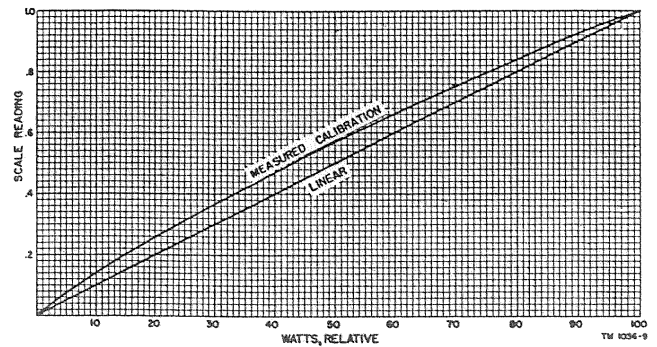

Figure 9. Scale Comparison - Thermocouple vs. Linear
e. The thermocouples generate a d-c millivoltage almost proportional to the r-f current squared and hence to r-f power. They do however depart somewhat from this function. In order to avoid the necessity of a correction for this error, the scale of the d-c millivoltmeter M201 has been drawn to correct this factor. Comparison of a linear millivolt scale and the actual scale used is illustrated in Fig. 9.
d. The d-c millivoltage thus generated by the thermocouple is almost directly proportional to the r-f current squared and hence to r-f power squared. What departure from the linear that does exist is corrected by the manner in which the d-c meter scale is drawn, see Fig. 9.
h. Fig. 9 shows the manner in which r-f power and the d-c millivoltage developed by the thermocouple are related. While the four types of thermocouples supplied with the wattmeter do not have exactly the same response, they are sufficiently alike to use the one correction for all four types. This correction is applied by designing the d-c meter with a scale which departs from the linear insofar as millivoltage is concerned sufficiently to correct for the thermocouple response characteristic.